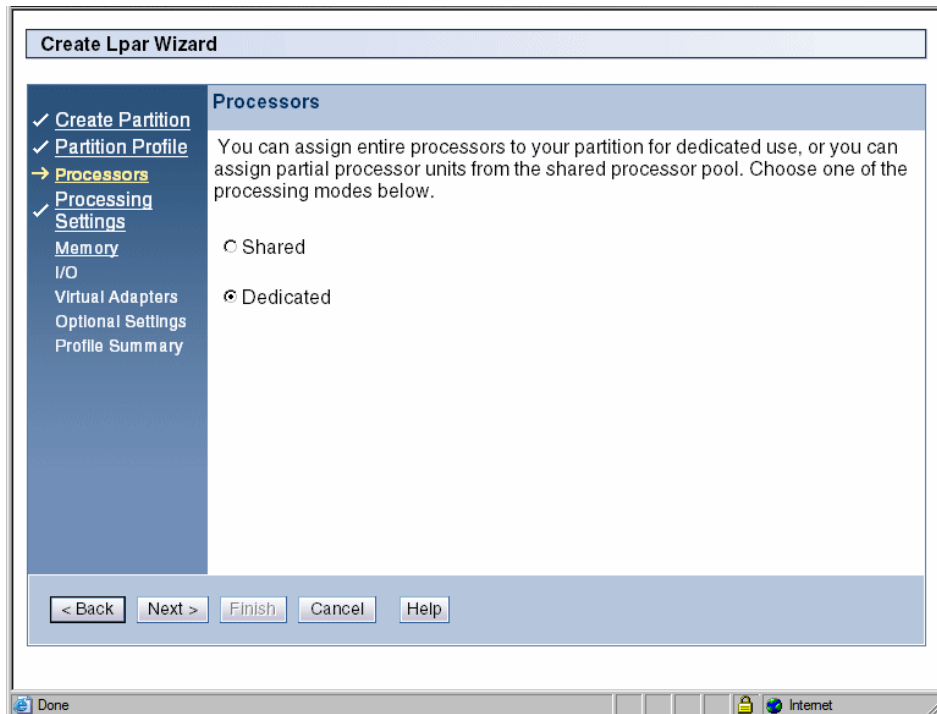

Figure 7-13 Create dedicated processor partition
1. Select **Dedicated** and then select **Next**, as shown in Figure 7-13.